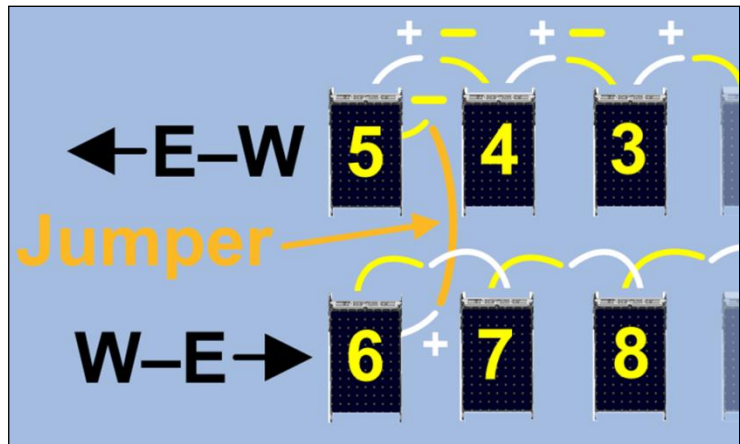

Fig. 52
**Important!** If you reach the end of a row but not the end of the *string*, you must “jump” to an adjacent row to continue and complete the string, connecting modules while moving *in the opposite direction*. In such cases, you must accordingly switch the position of the module leads as you connect them in the adjacent row (Fig. 52).
**Note.** The colors used on the module lead wires in Fig. 52 are for illustrative purposes only.
- Attach a jumper between the appropriate module leads, keeping the jumper *within* the array perimeter (Fig. 52).